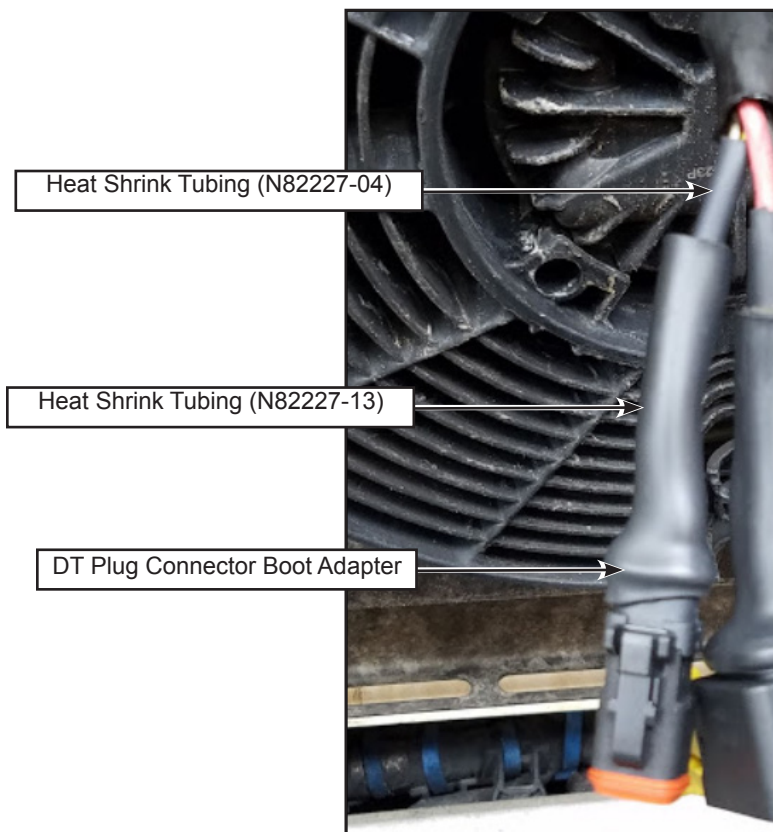

Figure 14 - Heat Shrink Tubing Installation on DT Plug Connector Wiring at Fan Side
- 1.23. Using a heat gun, apply the large heat shrink tubing PN N82227-13 starting from the boot adapter of DT plug connector finishing directly over the smaller heat shrink tube previously installed on the paired control wires (see figure 14). Make sure to fill any gap with the inner adhesive liner glue (do not apply heat shrink tubing over tape or loom).